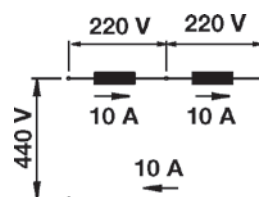

Figure 1.6a
- By making a series connection (figure 1.6a), where the total current flows through the two loads. In this case, the voltage across each load is half of the circuit voltage.